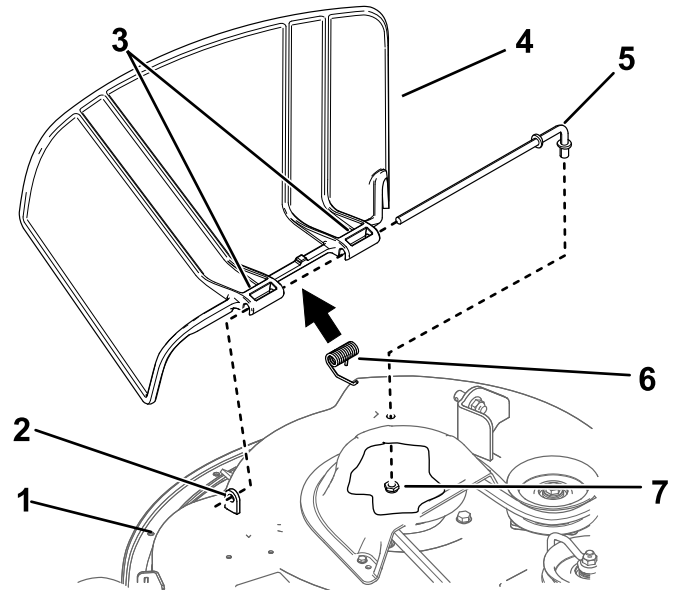

Figure 67
- Remove the nut (3/8 inch) from the rod under the mower (Figure 67).
- Slide the rod out of the short stand-off, spring, and grass deflector (Figure 67).
4. Install the new grass deflector (Figure 67).
7. Slide the rod through the second grass-deflector bracket (Figure 67).
9. Secure the rear end of the rod into the mower with a nut (3/8 inch) as shown in Figure 67.